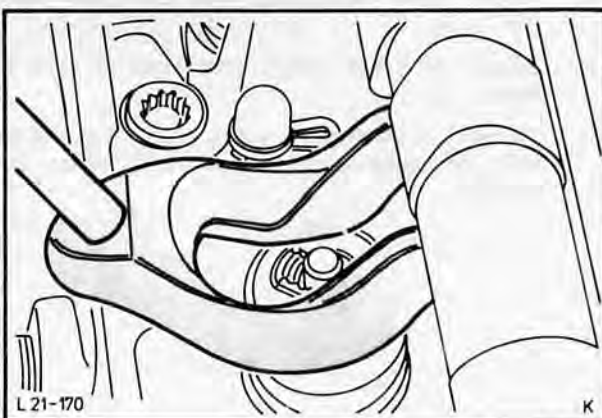

Fig. 187. Remove valve spring using Special Tools 21-005-A and 21-006-A
5. Press valve spring and valve spring retainer down, using Special Tool 21-005-A, Fig. 187. Remove collets and release pressure on spring.